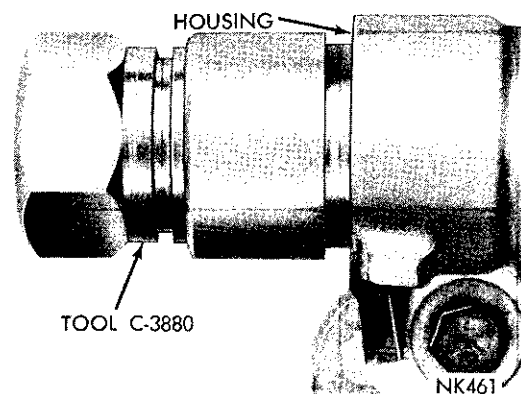

Fig. 14—Installing Cross Shaft Oil Seal
(40) Make certain some lash exists between cross shaft sector teeth and ball nut rack. Install and tighten cover bolts to 25 foot-pounds.
(41) Position cross shaft seal on cross shaft with lip of seal facing gear housing. Place installing adapter SP-3828 from Tool C-3880 against seal with **short step** toward seal (Fig. 14). Position nut from Tool C-3880 on cross shaft and turn it down against adapter, pressing seal into housing until step on adapter contacts end of housing. Remove tool.
(42) Turn worm shaft about 1/4 turn away from center of "high-spot" position. Using torque wrench C-3380 and 3/4 inch socket on worm shaft spline, check torque required to rotate shaft through high spot at center position. The reading should be between 8 and 11 inch pounds. Readjust cross shaft adjusting screw as necessary to obtain proper torque reading. Tighten lock nut to 35 foot pounds and recheck cross shaft torque.
3880 against seal. Press seal in until a gap of 1/4 inch exists between adapter and housings (Fig. 14).